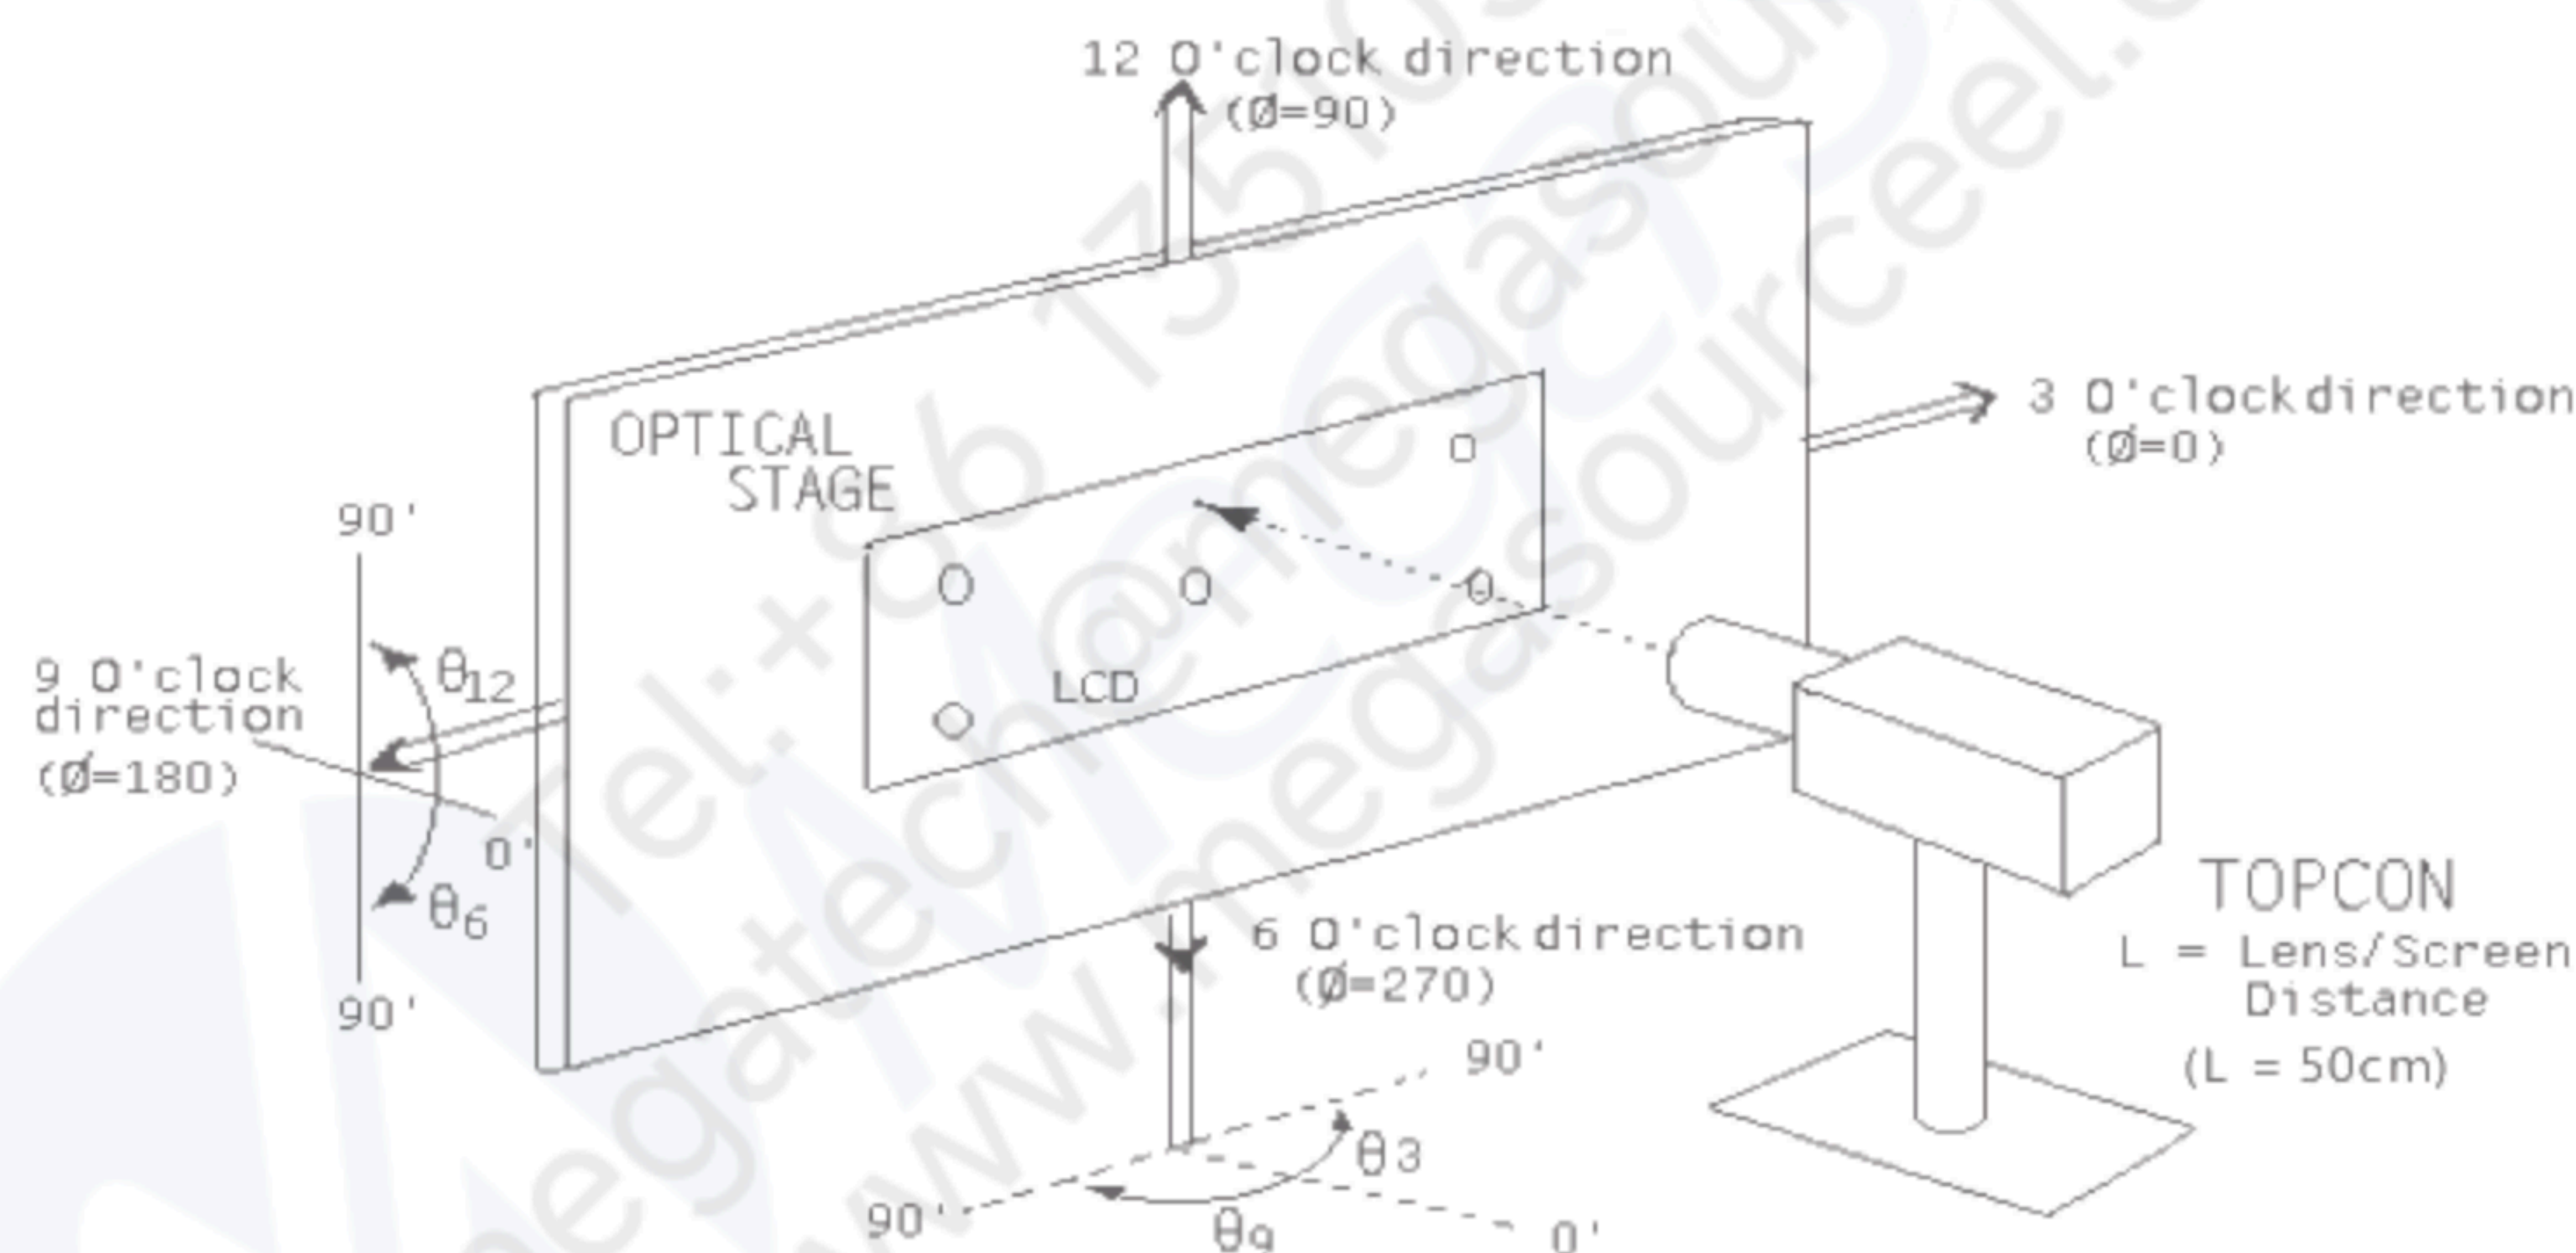

Figure 5. Measurement Set Up
2. Surface luminance is the center point across the LCD surface 50cm from the surface with all pixels displaying white. This measurement shall be taken at the locations shown in FIG. 5.